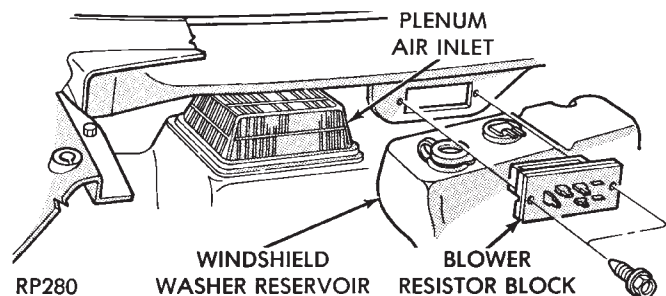

Fig. 4 Blower Resistor Block Location—AA, AP, AY and AC Body
(2) Remove five cowl-plenum grille attaching screws and carefully lift the grille from the vehicle.
(5) Disconnect the wire connector from the resistor block located behind the windshield washer reservoir (Fig. 4).